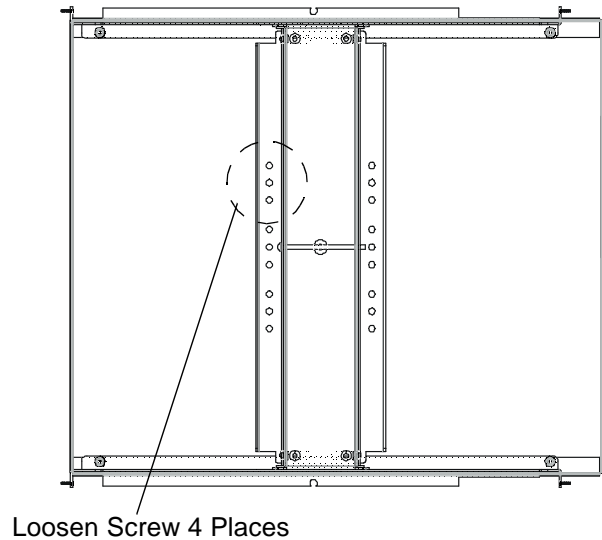

Figure 9. Yaw Adjustment
1. **Yaw.** See Fig. 9. Move the lift to its “down” position. There are four 10-32 x 1/2-in. pan-head screws (two on each side) inside the bottom of the cradle, that secure the left and right horizontal positions. Loosen these screws **slightly**, move the cradle to the desired position, and retighten the screws.